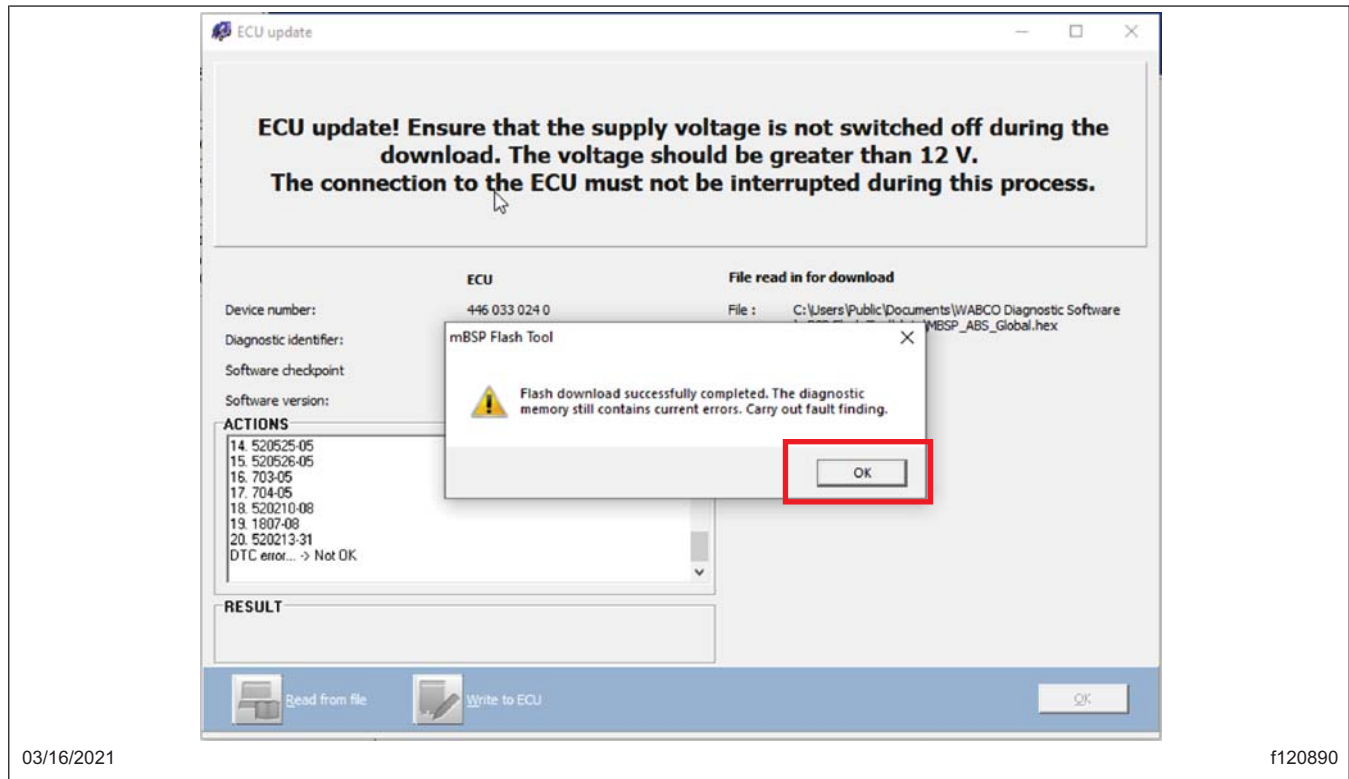

Fig. 31, Carrying Out Fault Finding
16. Once the ECU update is complete, some ECU errors may be present. Select 'OK' and close out of the flash tool and start the calibration mode. See Fig. 31.